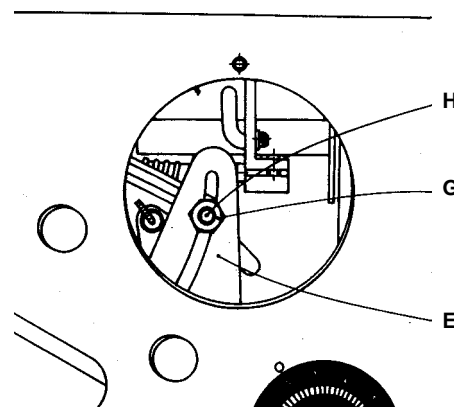

Fig. 9
6.7 Adjustment of the pattern width (Fig. 9)